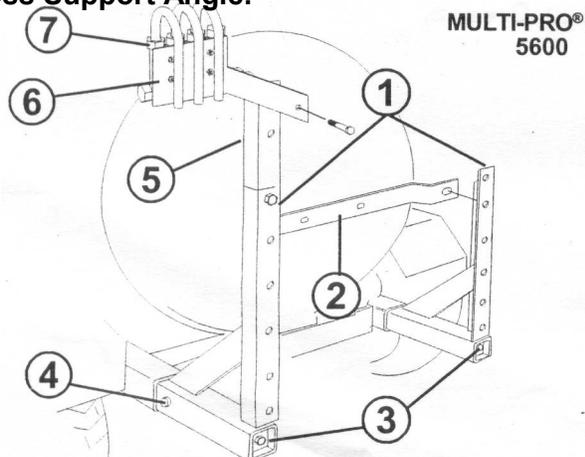

FIG. 2
2. Assemble Flow Monitor and Flow Monitor Backing Plate onto the Flow Monitor Mount using (4) 1/4" x 2" hex hd. cap screws and lock nuts. FIG 2.
3. Assemble the Cross Bar into the second set of holes from the top, Flow Monitor Mount and Flow Monitor Mount Extender Bracket onto the Boom Mount Assemblies with (4) 1/2" x 1-1/4 hex hd. cap screws and lock nuts as per FIG. 2.
4. Using a torque wrench, tighten the (2) 1/2" x 18" screws that join the Wedge Tubes to the Boom Mounts. Tighten to 50 ft. lbs.